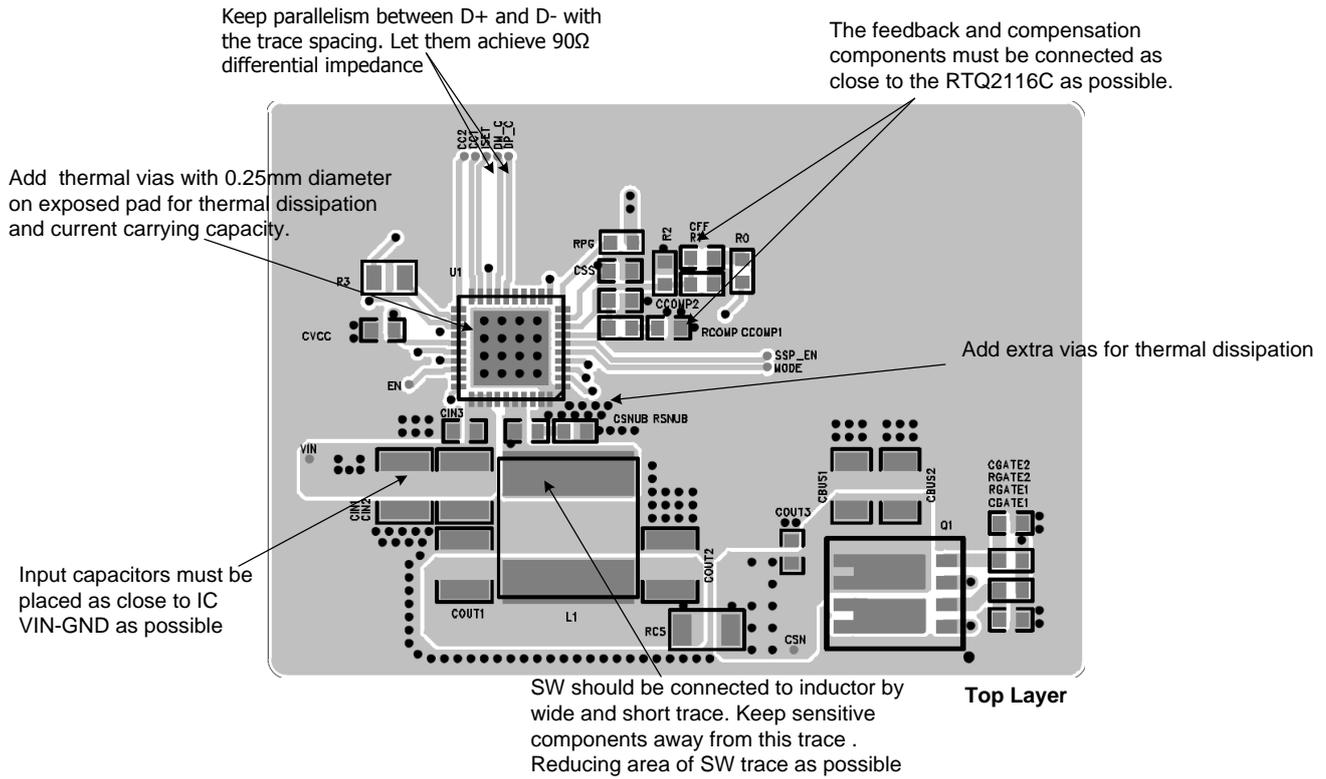

Figure 24. Layout Guide (Top Layer)
- Figure 24 to Figure 27 are the layout example.